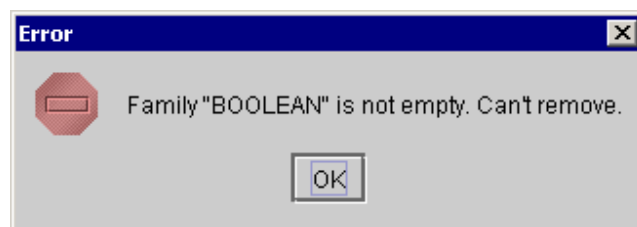

Figure 92 : Error window – Family not empty
- ◆ Select the **Remove family** command; if the operator's family is not empty, the *Error* message (Figure 92) is displayed indicating that the family cannot be removed.